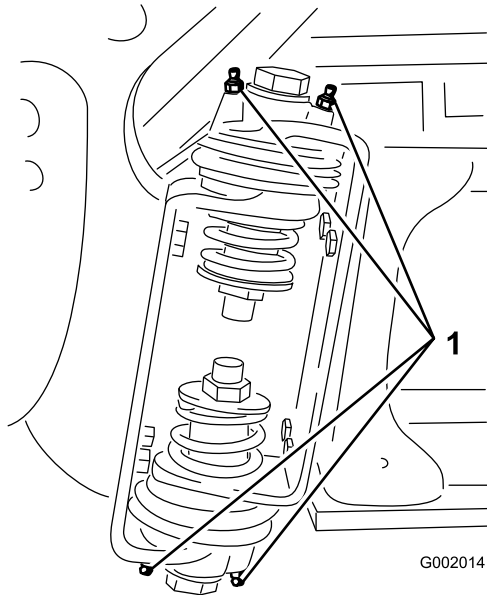

Figure 100
2. Pump grease into the bearing or bushing at each fitting Figure 100.